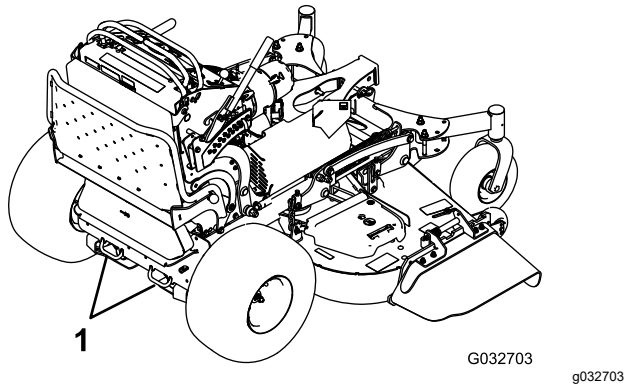

Figure 32
7. Tie down the machine near the front caster wheels and the rear bumper with straps, chains, cable, or ropes (Figure 32). Refer to local regulations for tie-down requirements.